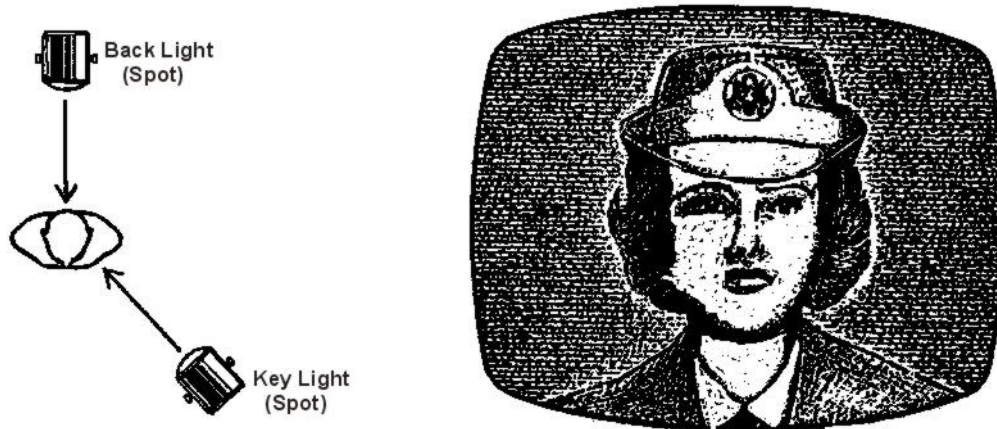

Figure I-6. Backlighting a Person
d. The backlight (Figure I-6) has several important functions. It helps to distinguish between the shadow area of an object or subject and the background. The backlight emphasizes the outline of the object, separating it from the background, and it also adds dimension and gives sparkle to a scene.